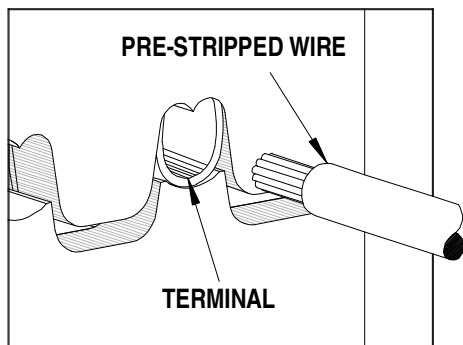

Figure 1
2. Partially close the tool until the terminal is held in place. See Figure 1. If the insulation diameter is too large to do this, then place the insulation down into the terminal before closing the tool.